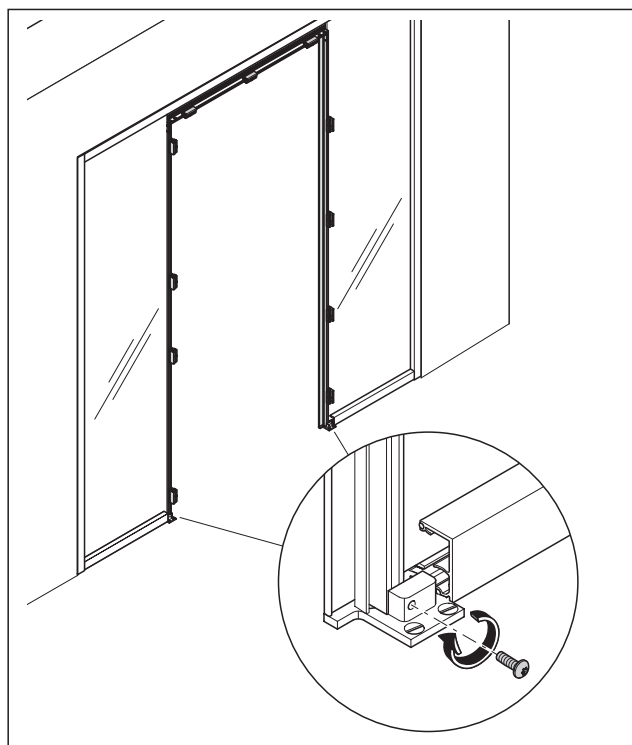

Fig. 32 Connect the base profile for the door frame with the door frame positioners
8. Connect the door frame with the door frame positioners (Fig. 32).